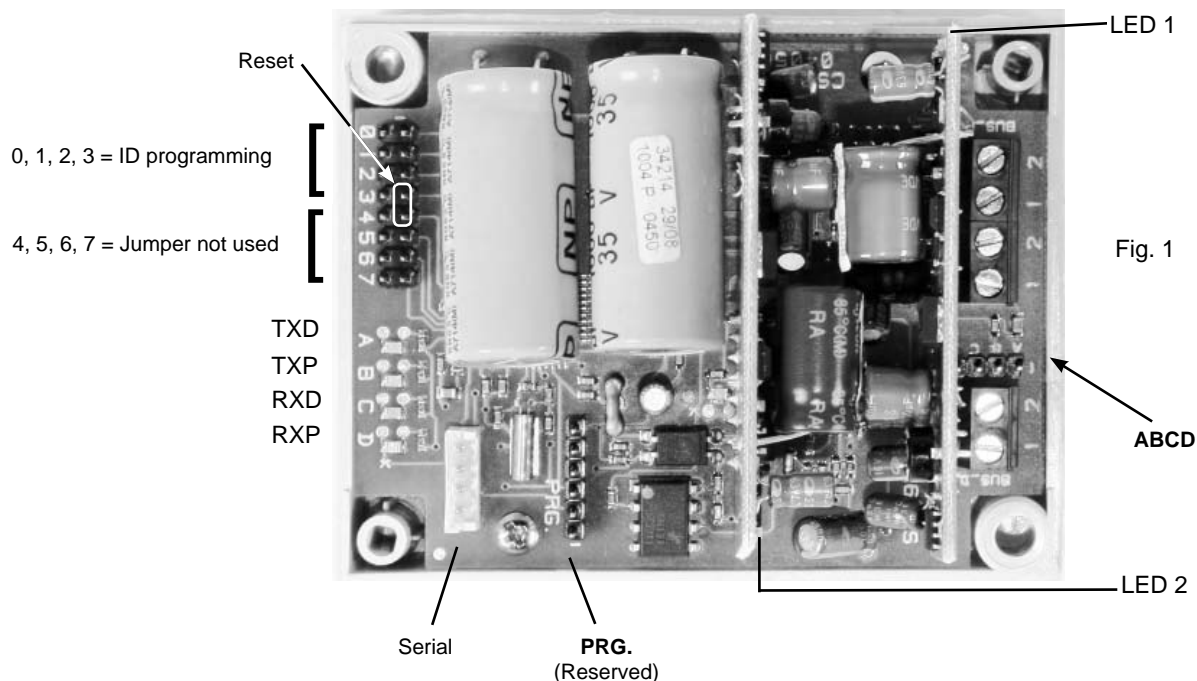

Fig. 1
- In the event that, within a system, riser separators need to be exchanged or a used separator must be utilised, it is necessary to reset the system. This is done by short-circuiting the pins labelled 3 and 4 which are used to assign the ID code, on the interior side of the board (see Fig. 1). The reset is confirmed by the LEDs which will flash rapidly in the sequence D-C-B-A.